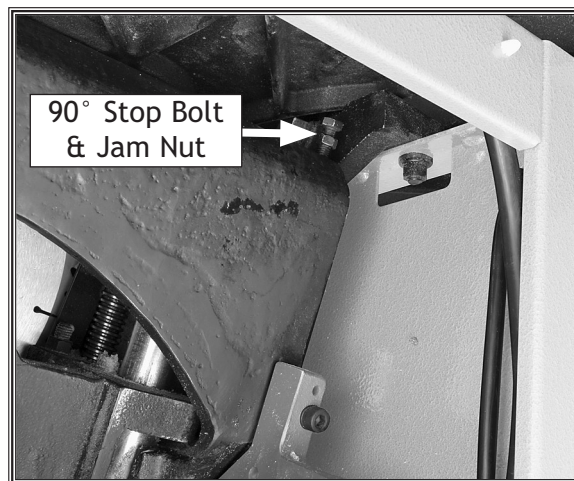

Figure 65. 90° stop bolt and jam nut.
5. Open the motor access cover, loosen the jam nut shown in **Figures 65 & 66** with a 12mm wrench, adjust the stop bolt up or down, and repeat **Steps 2-3** until the stop bolt contacts the table when the blade is at 0°.